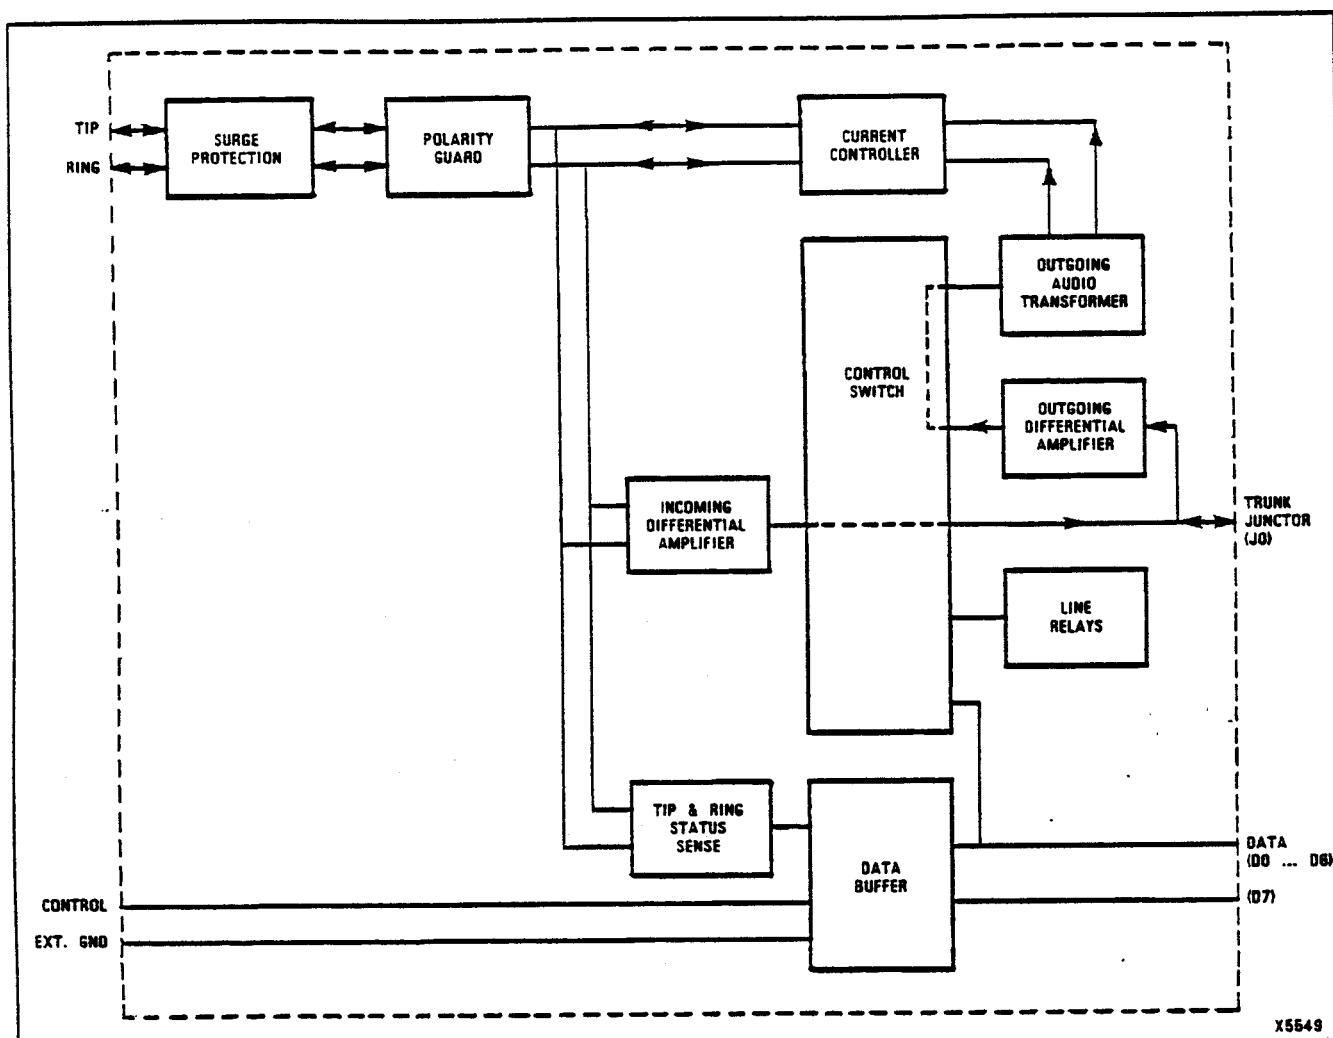

Fig. 9-3 Trunk Circuit (2 circuits per Trunk Module)
##### Trunk Module (Fig. 9-3)
9.06 The Trunk Module provides two CO trunk circuits, an example of which is shown in Fig. 9-3. Trunks may be set for "loop start" or "ground start" working by means of a switch mounted on the trunk module (preset at the factory to "loop start").